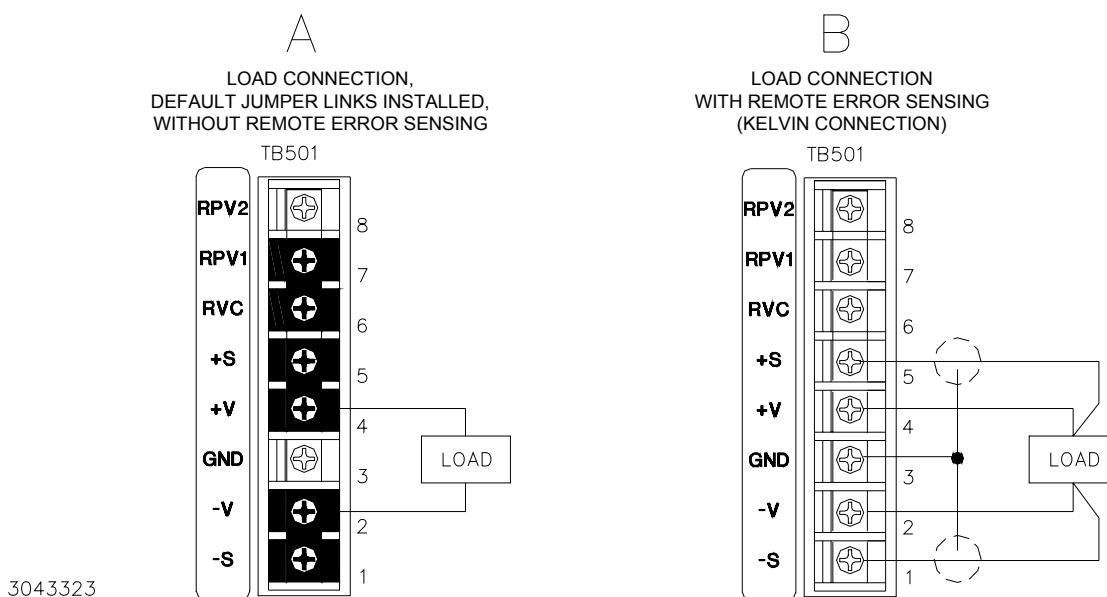

FIGURE 3-1. LOAD CONNECTION SHOWING A FLOATING LOAD
The Power Supply is shipped from the factory with three (3) removable jumper links in place at the rear barrier strip TB501 as shown in FIG. 3-1, as well as a link between REF and RPC1 terminals of rear barrier strip TB502 that enables the front panel CURRENT LIMIT "B" control. THESE LINKS MUST BE IN PLACE AND SECURED TIGHTLY for standard local operation. Loose terminal links or wires at the barrier strip will cause malfunction of the power supply.
The load may be connected in either of the two ways illustrated (Figure 3-1).